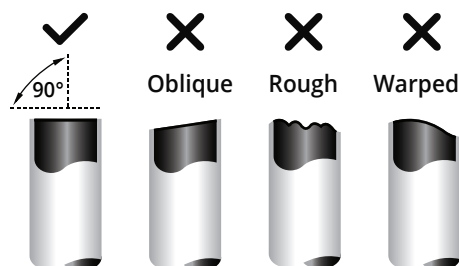

Fig. 5.1
3. Make sure that the pipe is cut at a perfect 90° angle. Refer to **Fig. 5.1** for correct and incorrect cut examples.